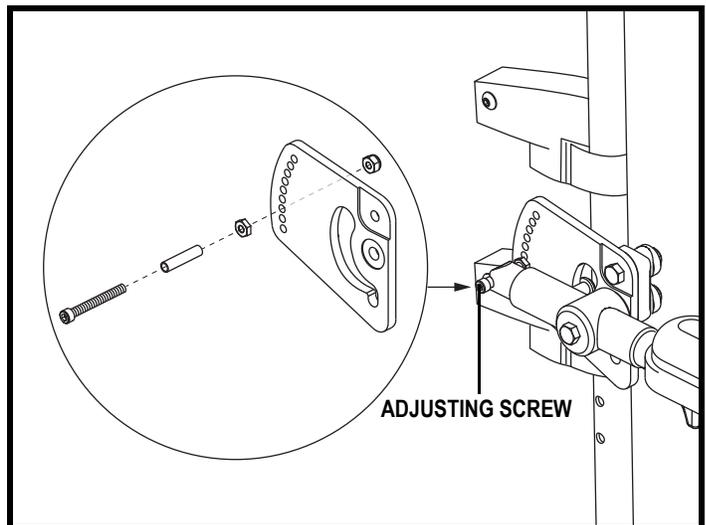

Figure 35. Latching Flip-up Armrest Angle Adjustment
2. Remove the adjusting screw. See **figure 35**.